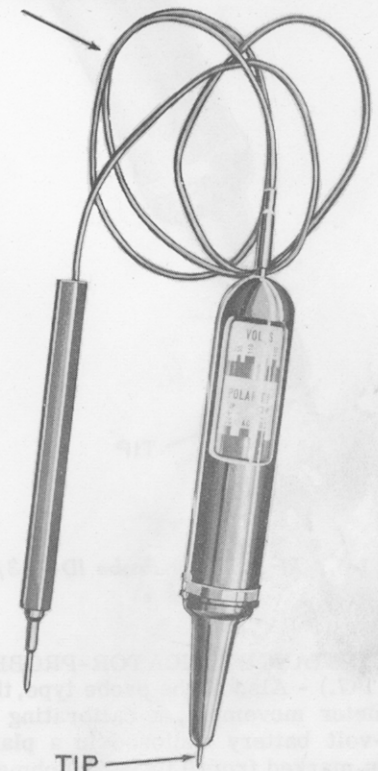

Figure 1-5. Voltage Indicator-Probe ID-265/U and Navy Type CAOR-491899-A Electrical Lead, Identification
e. VOLTAGE INDICATOR-PROBE ID-265/U. (See figure 1-5.) - This unit is shown with its lead attached for a complete circuit. It consists of two meter elements so arranged electrically that one, M-401, indicates whether the line is AC or DC. If the line is DC, the polarity of the probe tip is indicated. The second meter movement M-402 indicates the magnitude of the voltage. The scale is marked 0, 55, 110, 220, and 440 volts. The AC voltage measured can be in the frequency range of 10 to 10,000 cycles. The lead used with this probe is Navy Type CAOR-491899-A, which is located on the Cord and Test Lead Holder H-918 behind the Accessory Case.